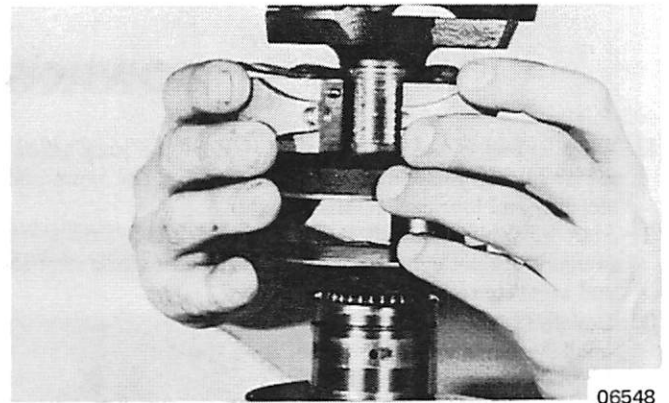

Figure 3. Reed Valve Installation
4. Install reed cages onto crankshaft. (Figure 3) Tighten 2 integral screws securely on reed cage to assure tight fit.